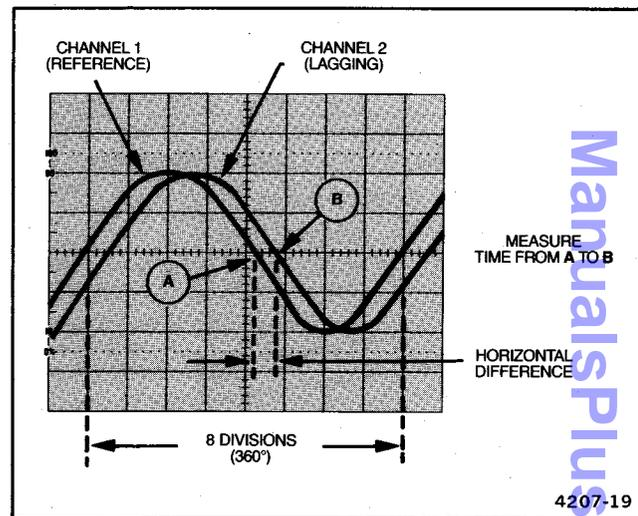

Figure 3-8. Phase difference.
9. Position the displays and adjust the SEC/DIV variable (CAL) control so that one cycle of the reference signal occupies exactly eight horizontal graticule divisions at the 50% rise-time points (see Figure 3-8). Each horizontal division of the graticule now represents  $45^\circ$  of the cycle ( $360^\circ$  divided by 8 divisions), and the horizontal graticule calibration can be stated as  $45^\circ$  per division.
**EXAMPLE.** In Figure 3-8, the horizontal difference is 0.6 division with a graticule calibration of  $45^\circ$  per division.
If the sweep speed were increased 10 times (MAG set to X10), the magnified horizontal graticule calibration then would be  $4.5^\circ$  per division ( $45^\circ/\text{division}$  divided by 10). Figure 3-9 shows the same signals illustrated in Figure 3-8, but horizontally magnified by a factor of 10.